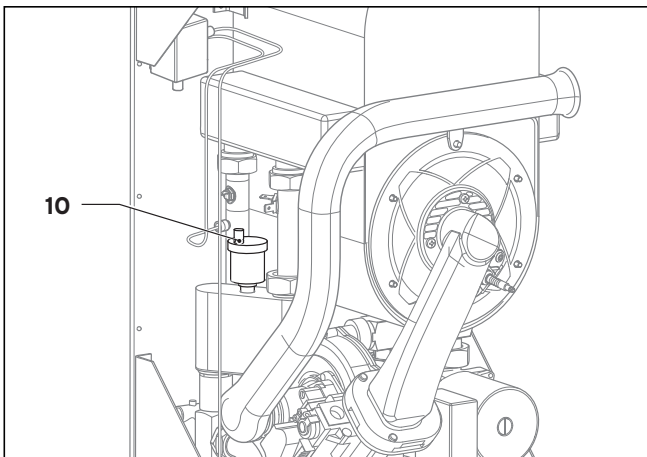

Fig. 5.1 Bleeding the appliance
- Remove the cap of the automatic air vent (see 10 / fig. 5.1) before filling the heating circuit/DHW primary circuit.